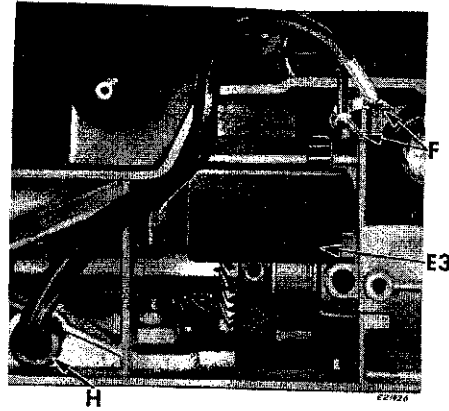

Fig. 3. Removing
2. Remove oil shield E3, Fig. 3 to obtain access to wire connections, unscrew two wire connectors and untwist wires at F, Fig. 3
5. Remove light socket and its wires by passing wires down through rubber grommet H, Figs. 3 and 4